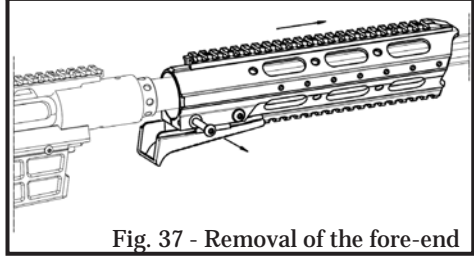

Fig. 37 - Removal of the fore-end
2. Loosen the rear screw completely and pull it out until the integrated stopper stops the movement (Fig. 37).